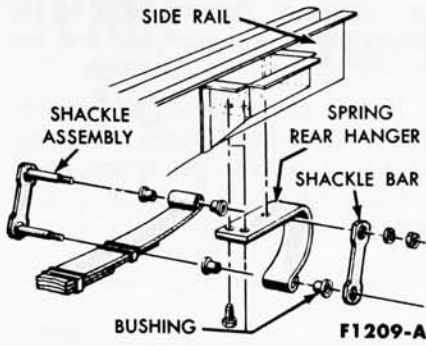

FIG. 13—Rear Spring and Rear Hanger Mounting
3. Connect the mounting bracket and shock absorber to the underbody (Fig. 13). Torque the bolts to specifications.
6. Remove the rear shackle nuts and shackle bar, then remove the shackle assembly from the rear hanger and spring (Fig. 13).
2. Position the rear eye of the spring on the rear hanger and install the shackle assembly to the spring and hanger (Fig. 13). The rear eye is at the long end of the spring from the center tie bolt. Install the shackle bar and retaining nuts. **Do not tighten the nuts at this time.**
Inspect the rear shackle, bushings, and studs for wear or damage. Replace parts where necessary (Fig. 13).